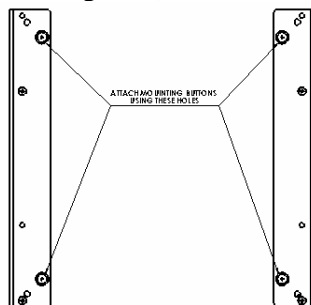
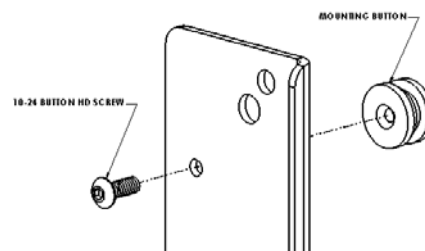

Figure 2
Figure 3
1. Using a 10-24 Button head cap screw inserted from back side of bracket, secure mounting button, with chamfered hole of mounting button (larger surface) facing bracket, to bracket (four places) (see Figure 2 and Figure 3).